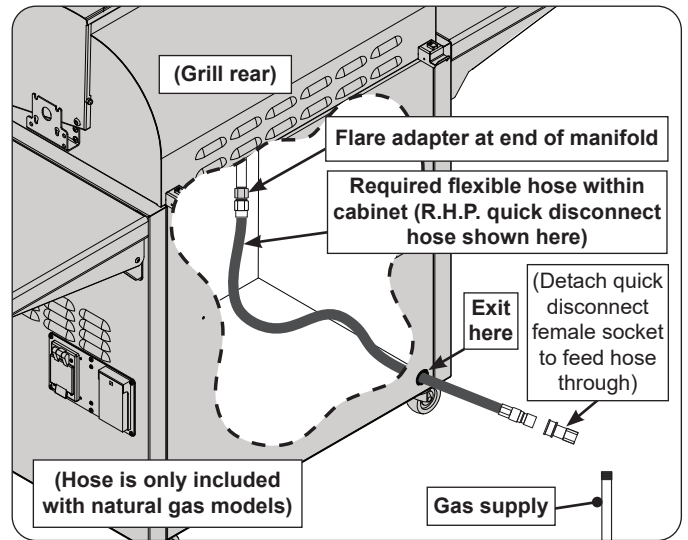

Fig. 25-1 Flexible hose assembly detail
2. **Household propane only:** A regulator hose assembly designed for L.P. cylinders comes pre-installed to the unit valve manifold. First remove this assembly from the flare adapter (at end of manifold), and then install a quick disconnect hose or similar (purchased separately) to the adapter. (An R.H.P. quick disconnect hose is recommended - see third bullet above.) Use a pipe joint compound resistant to all gasses on all NPT pipe fittings except flare fittings. Reference Fig. 25-1. Then proceed to step 3.
3. Route the quick disconnect hose (or similar) out of the hole in the rear bottom right of the cabinet, and to the gas supply (see Fig. 25-1).